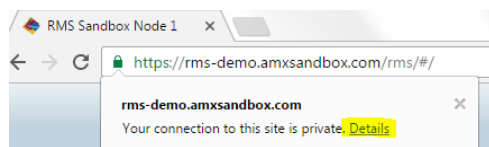

FIG. 460 Details link
2. Click the **Details** link (FIG. 460):